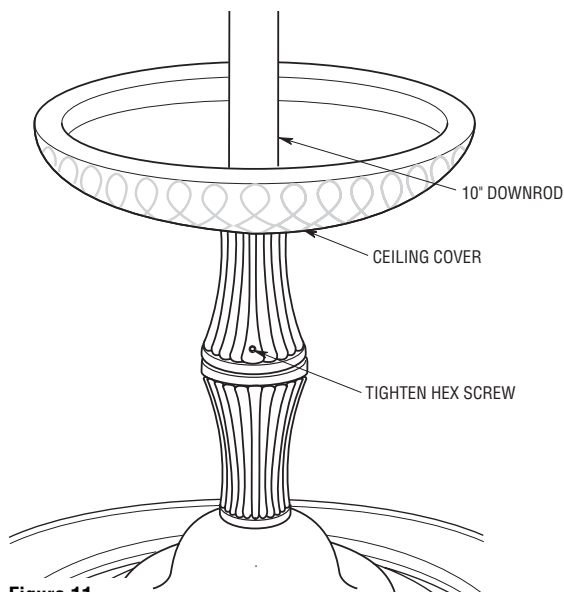

Figure 11
- 21. Position the ceiling cover over the downrod. Be sure the cover is oriented correctly, with the large opening at the top (Figure 11).